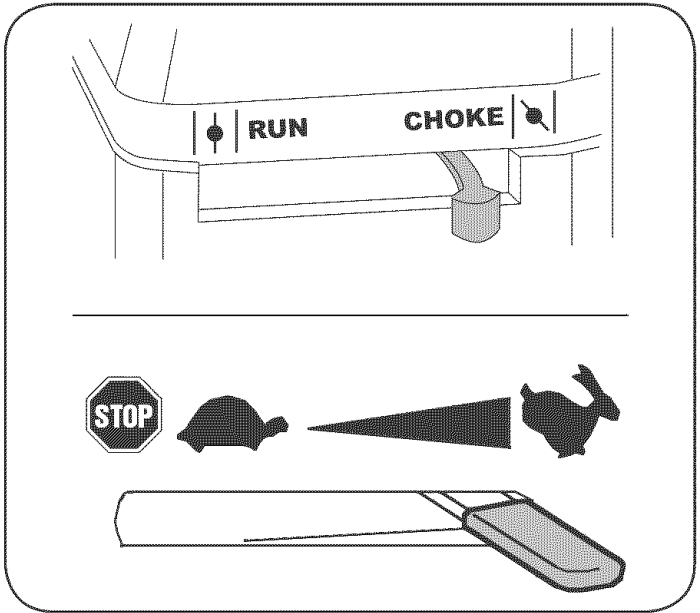

Figure 5
1. Move choke control lever to CHOKE position. See Figure 5.
2. Move throttle control lever to FAST (rabbit) position. See Figure 5.